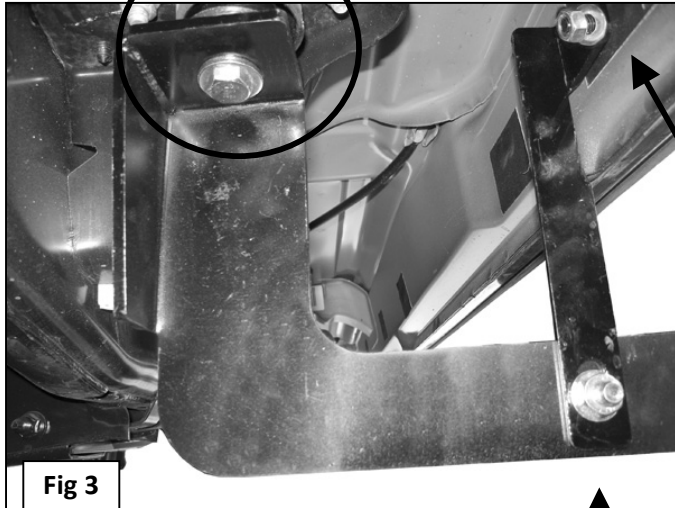

Fig 3
3. Select the driver side front Mounting Bracket. Insert (1) 12-1.75mm x 120mm Hex Bolt with (1) 12mm ID x 32mm OD x 3mm Flat Washer and (1) 12mm Lock Washer through the Mounting Bracket. Place (1) Spacer Plate onto the 12mm Hex Bolt then slide the rubber bushing onto the Hex Bolt. Make sure that the Spacer Plate is between the Mounting Bracket and the factory rubber bushing, (**Figure 3**). Hold the front Mounting Bracket, (with hardware, factory washer and rubber bushing), up in position and hang it from the body mount by threading the hex bolt into the body mount. Snug but do not tighten hardware at this time. **IMPORTANT:** On 05 and newer model years, the large washer on the factory body mount bolt is removable, (do not discard-must reinstall), and the bolt is long enough to go through the Mounting Bracket and properly thread into the body mount. It is the installer's responsibility to check length and to determine whether to use the factory or replacement hex bolt.
6. Locate the driver side front Support Bracket (long) and attach it to the Bolt Plate with (1) 10mm Lock Washer, (1) 10mm Flat Washer and (1) 10mm Hex Nut, **(Figure 3)**. **NOTE:** Place Support Bracket against the front facing side of the Mounting Bracket with the bent tab facing towards the **front** of the vehicle. Snug but do not tighten hardware at this time.
7. Attach the lower end of the front Support Bracket to the Mounting Bracket using (1) 10mm x 30mm Hex Head Bolt, (1) 10mm Lock Washer, (2) 10mm Flat Washers and (1) 10mm Hex Nut, **(Figure 3)**. Do not tighten hardware at this time.